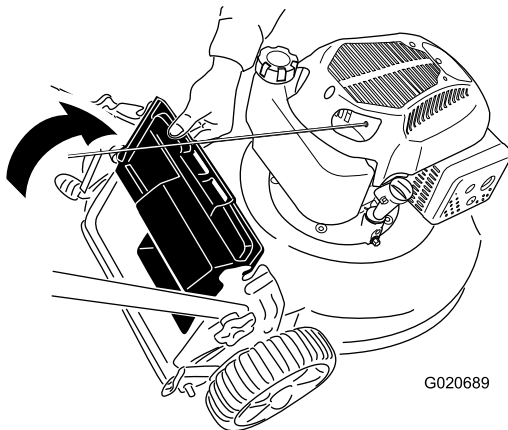

Figure 22
2. Lift up the rear deflector and hold it (Figure 22).